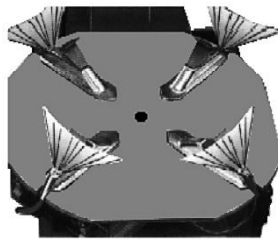

Fig.11
- Clamp the pressure gauge over the valve and press the pedal (G) fully down, air will be forced through the jets on the claws directly under the tyre. (See Fig. 11)